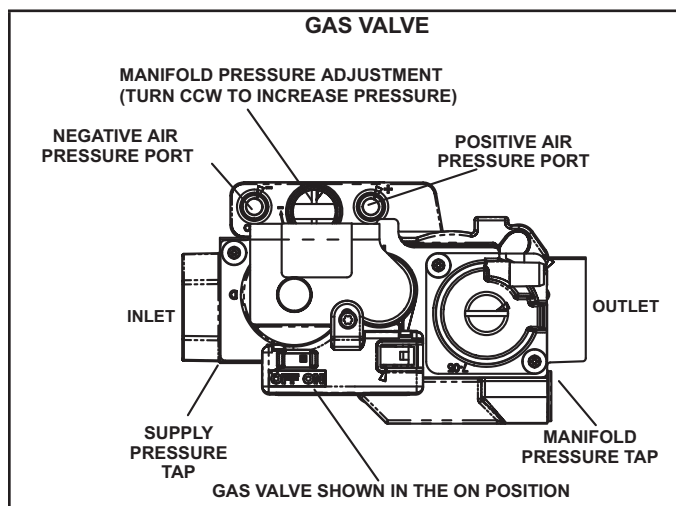

FIGURE 26
Gas Valve Operation (Figure 26)
- 6 - Move switch on gas valve to OFF. Do not force. See figure 26.
- 8 - Move switch on gas valve to ON. Do not force. See figure 26.
- 4 - Move switch on gas valve to OF. Do not force. See figure 26.
A port on the inlet side of the gas valve (figure 26) provides access to the supply pressure tap. Loosen the screws and connect a manometer to measure supply pressure. The minimum supply line pressure is 4.5" - 10.5" w.c. for natural and 11.0 - 13.0" wc for LP/Propane. Tighten after measurements have been taken.
- 1 - Remove the threaded plug from the outlet side of the gas valve (figure 26) and install a field-provided barbed fitting. Connect measuring device "+" connection to barbed fitting to measure manifold pressure.